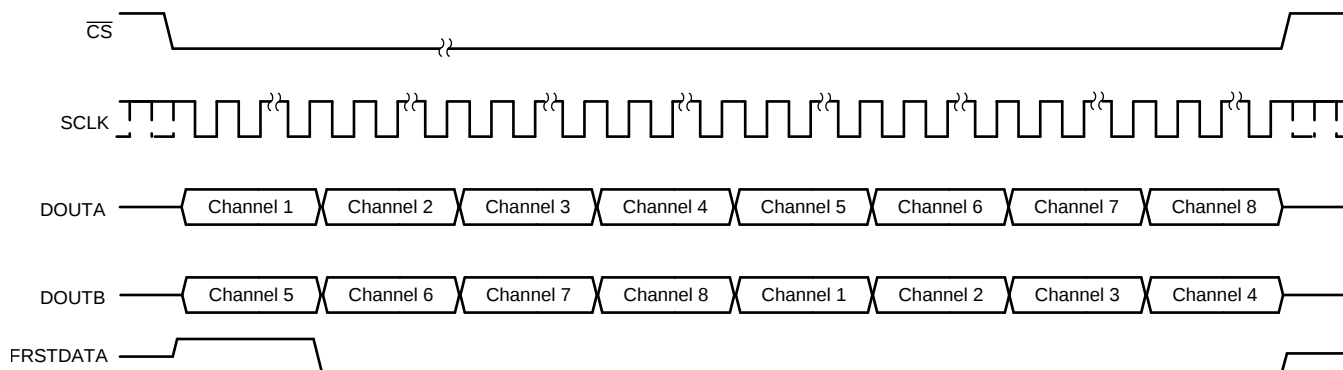

图 69. Data Read Back in the Serial Interface Using Either DOUTA or DOUTB Timing Diagram
- The conversion data can be read out of the device using only one of the two serial output lines, DOUTA or DOUTB. In this case, using DOUTA for output data read back is recommended because channel 1 data appear first on DOUTA followed by the data for other channels in ascending order. To read the data for all channels, provide a total of $16 \times 8 = 128$ SCLK cycles. This entire data frame can be created within a single $\overline{CS}$ pulse or each group of 16 SCLK cycles can be individually framed by the $\overline{CS}$ signal. The primary disadvantage of using just one data line for reading conversion data is that the throughput is reduced if a data read operation is performed after conversion. Figure 69 illustrates this operation.
- Alternatively, only DOUTB can be used for reading the conversion data from all channels. In this case, everything else remains the same and the output bit stream contains data for all channels in the following order: channels 5, 6, 7, 8, 1, 2, 3, and 4. Figure 69 illustrates this operation.